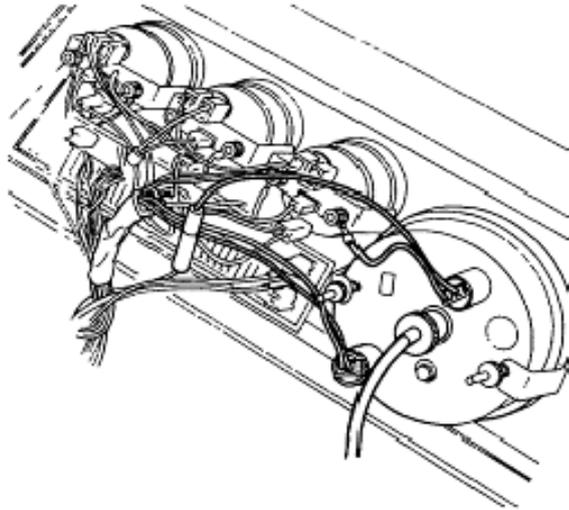

Figure 78 Speedometer Cable Removal
- i.** Depress the clip retaining the speedometer cable to the speedometer and withdraw the cable (Figure 78).
- c.** Fit the cable on the speedometer ensuring the drive end is engaged and the retaining clip is secure (Figure 78).